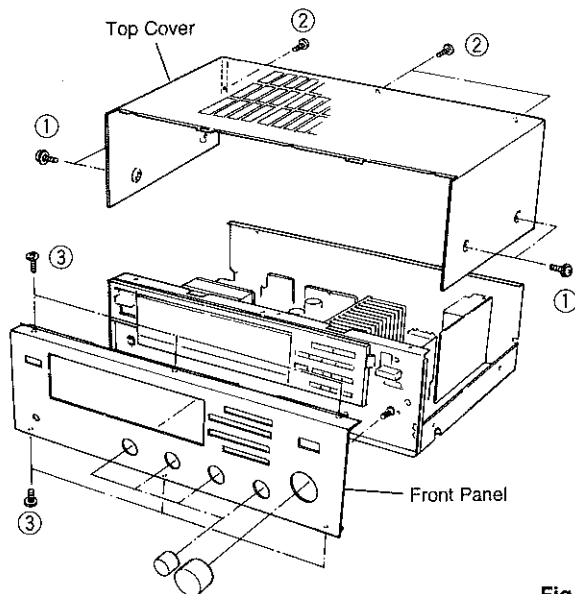

Fig. 1
Remove 4 screws (①) and 3 screws (②) in Fig. 1.
b. Remove 6 screws (③) in Fig. 1.